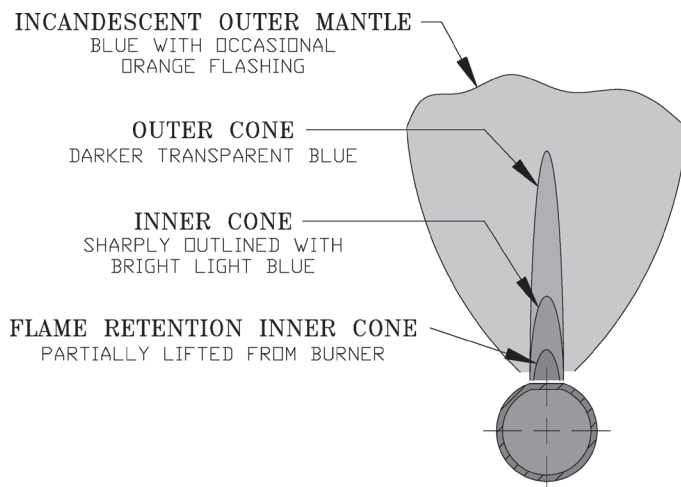

Figure 47: Main Burner Flame
3. Check main burner flames. See Figure 47. Flame should have clearly defined inner cones with no yellow tipping. Orange-yellow streaks caused by dust should not be confused with true yellow tipping.